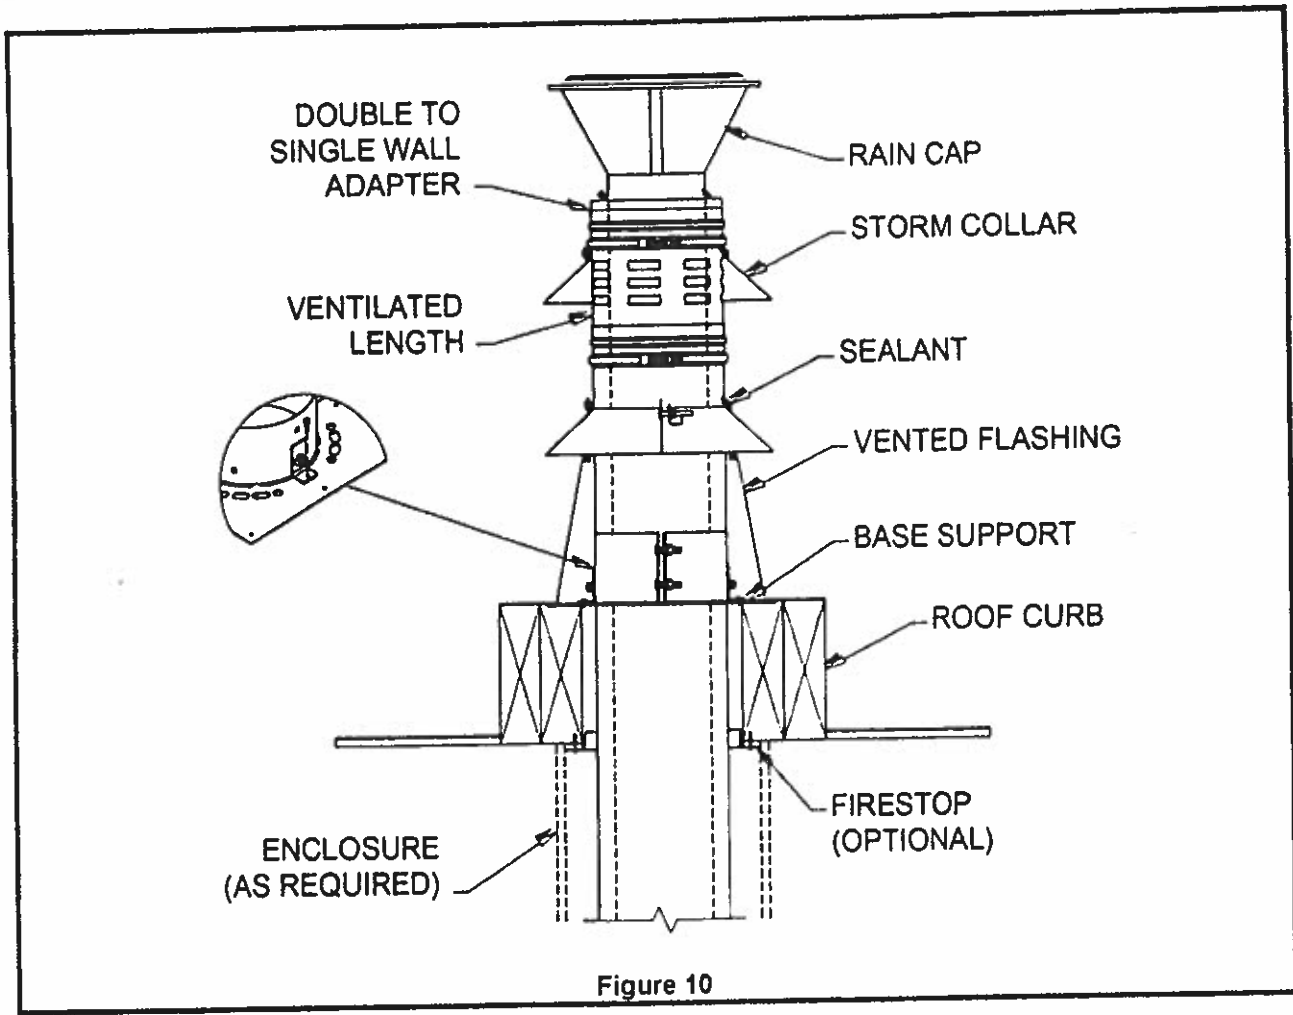

Figure 10
2. Cut and frame square openings in the floor, ceiling and roof where the vent will pass. The openings must be 4" larger than the vent inner diameter. If you are planning to install a Roof Radiation Shield, the roof opening must be 6" larger than the vent inner diameter (see Figure 10).
9. Install the appropriate roof flashing for your roof pitch. A vented flashing is required for a combustible roof. Seal the flashing to the roof with roofing tar or silicone sealant. Place a storm collar over the vent and the flashing and over the Ventilated Length to cover the ventilation openings. Tighten them in place. Caulk the joint between the vent and storm collars with silicone sealant (see Figure 10).